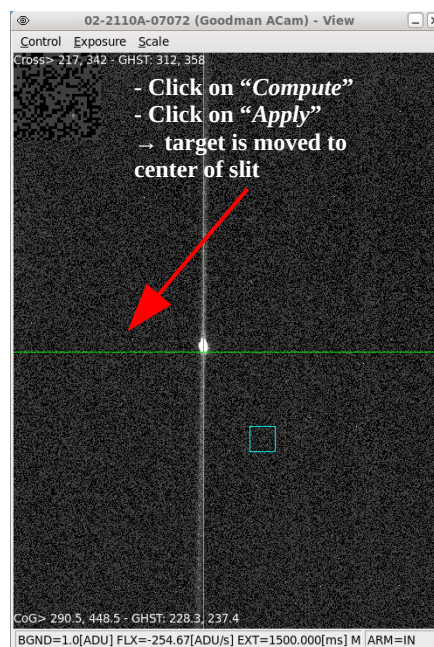
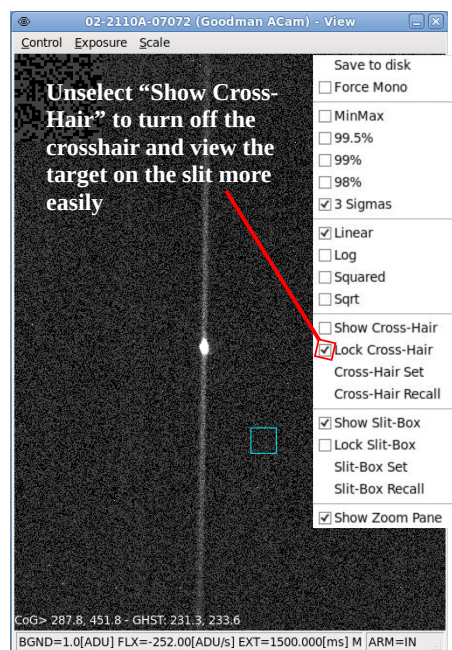

Figure 7. **Right:** Target on slit
Figure 8: Target centered on the slit.
Clicking on your target will place the blue box on it as shown in Figure 7, right; as opposed to the crosshair, which will be at the exact mouse position, the cyan Slit-Box uses a centroiding algorithm to determine the position of the target. The centroid coordinates are shown in the lower left corner of the GACAM viewing window (Fig. 8), first in GACAM coordinates, then in Goodman HST coordinates.
2. Now bring up the **Control** menu, and select the **Offsets** option (Fig. 7, left). You will see the **Offsets** sub-window as shown. Click on the **Compute** button. The fields will display the Instrument Position Angle (IPA), and the calculated offsets (in arcsec) in the E-W and N-S directions, between the current (locked) position of the crosshair (which is the reference) and the centroid of the cyan Slit-box. Click on the **Apply** button to send these offsets to the telescope Control System (TCS). Advise the Telescope Operator so he keeps track of the guide star when the offset is applied. You will see the target move and end up centered on the crosshair, as shown in Figure 7, right. You can more easily double check your object is correctly centered on the slit by removing the crosshair, as shown in Figure 8 (unselect the **Show Cross-Hair** option in the pop-up menu).